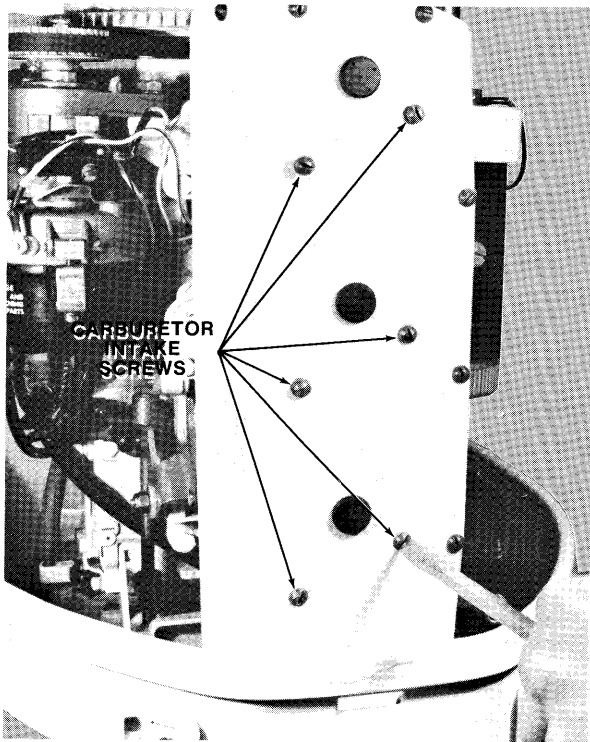

Figure 1—Removing Carburetor Intake
- A. Remove carburetor intake with cover by removing six (6) screws as shown in figure 1. Also remove carburetor intake gaskets (1 per carburetor).